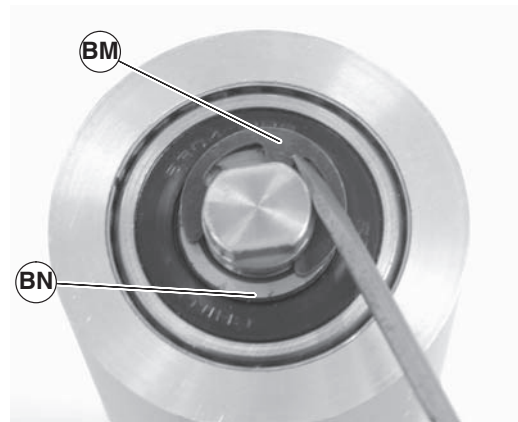

Figure 77
- Remove the pulley shaft assembly: remove the clip ring (Figure 77, item BM) and washer (BN) from one side of the pulley assembly.